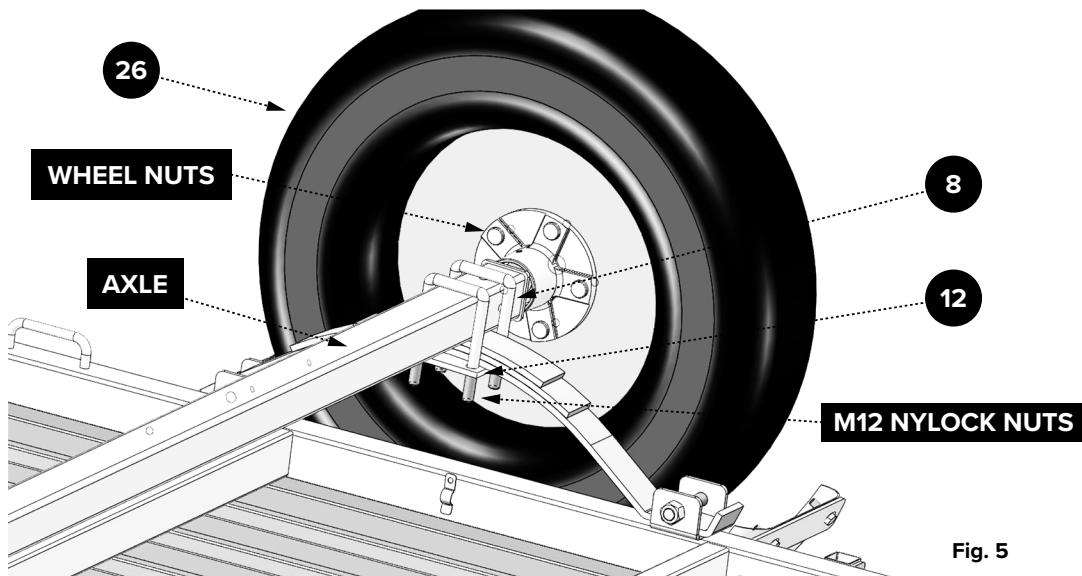

Fig. 5
2. Mount the axle to the 3-leaf springs (11) using U-bolts (8), leaf spring plates (12) and M12 nylock nuts to fasten the plates to the U-bolts (Fig. 5).
NOTE: Insert the raised point of the spring into the concave side on the axle. Make sure that the axle is in the right position. See Fig. 5 for a closer view of the wheel.